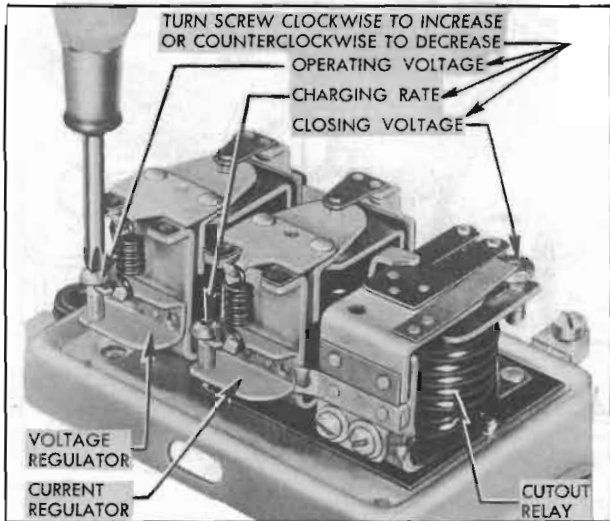

Figure 10-22—Generator Regulator Spring Tension Adjustments
11. If cutout relay operation is otherwise satisfactory but closing voltage is not between 5.9 and 6.7, remove regulator cover and adjust relay armature spring tension to obtain closing voltage of 6.4. Adjusting screw has a *left-hand thread*, therefore turning screw clockwise increases spring tension and closing voltage; turning screw counterclockwise decreases closing voltage. See figure 10-22. *After adjustment, install cover and recheck closing voltage.*
19. If contact points are in satisfactory condition but either the voltage or current regulator did not operate within specified limits, adjust armature spring tension as required. Turn adjusting screw clockwise to increase operating voltage or charging rate; turn counterclockwise to decrease operating voltage or charging rate. See figure 10-22. *The final setting must always be made by turning screw clockwise to increase voltage or charging rate—never by turning screw counterclockwise.*
10. If relay closing voltage is not between 5.9 and 6.7, remove regulator cover and adjust relay armature spring tension to obtain closing voltage of 6.4. Adjusting screw has a *left-hand thread*, therefore turning screw clockwise increases spring tension and closing voltage; turning screw counterclockwise decreases closing voltage. See figure 10-22. *After adjustment, install cover and recheck closing voltage.*
18. If either the voltage or current regulator did not operate within specified limits, remove regulator cover and adjust armature spring tension as required. Turn adjusting screw clockwise to increase operating voltage or charging rate; turn counterclockwise to decrease operating voltage or charging rate. See figure 10-22. *The final setting must always be made by turning screw clockwise to increase voltage or charging rate—never by turning screw counterclockwise.*